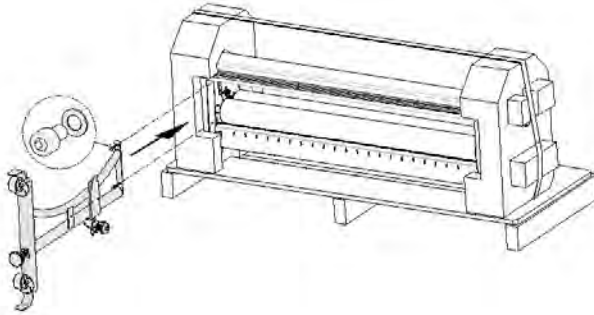

Figure 2
- Use two serrated washers and two socket screws M6x16 (see fig.2)